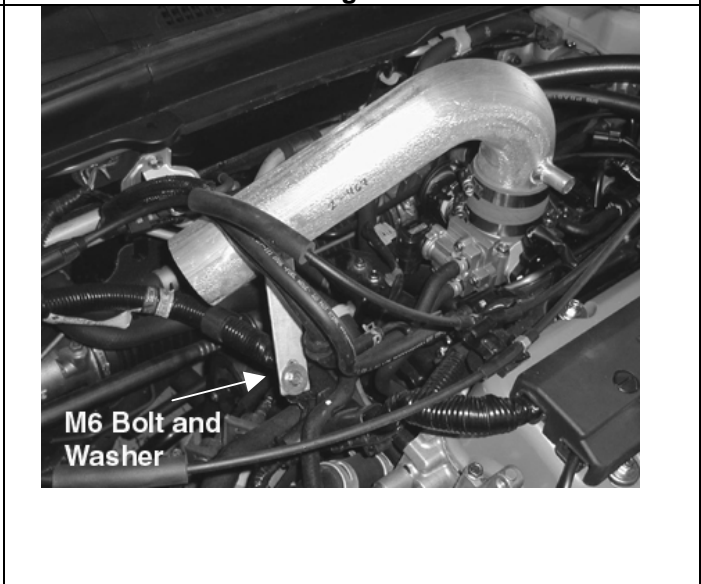

Fig. 6
- e) Thread the supplied washer and bolt through the inlet pipe mounting tab into the factory Intake Resonator mounting bracket. Do not tighten yet. **(Fig. 6)**